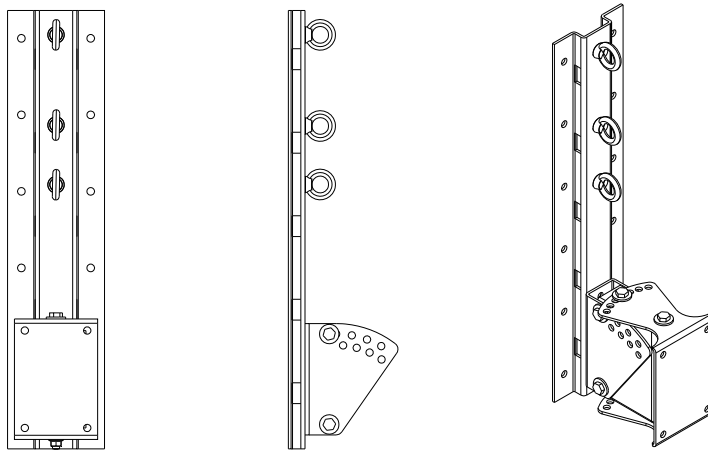
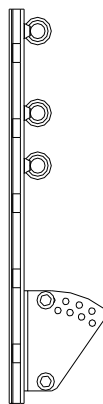

Figure 1
Figure 1a
The PT-70-2 and PT-35-2 consist of three parts: the wall bracket, the loudspeaker bracket, and the Link. The PT-70-2 wall bracket and loudspeaker bracket are shown in Figure 1. Figure 1a shows the wall bracket portion of the PT-70-2. The PT-70-2 bracket allows the loudspeaker to be oriented from a 0 degree down tilt to a maximum down tilt of 35 degrees in 5 degrees increments. The PT-35-2 allows a down tilt of 40 degrees in 8 degree increments.
1. Mount the wall bracket section (see figure 1a) of the bracket to the pole at the desired height on the pole. The bracket is mounted to the pole using BAND-IT stainless steel bands. DO NOT SUBSTITUTE bands of other material or other widths! There are five locations on the pole bracket for bands. ALL 5 LOCATIONS MUST BE USED on the PT-70-2. There are 3 locations for the PT-35-2 and ALL 3 slots MUST BE USED. Figure 6 below illustrates the locations for the stainless steel band clamps.(PT-70 is shown)